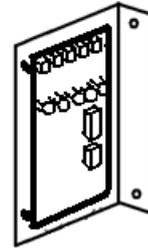

Figure 8. SDM-4 mounting
2. Mount the SDM-4 on the barrel nuts using the M3 x 6 screws as per Figure 8.